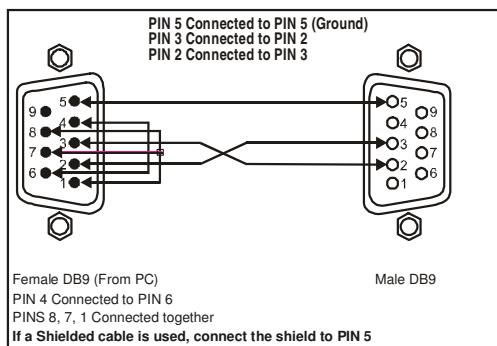

Figure 6: Connecting a PC without using a Null-modem Adapter
- Connect the RS-232 DB9 port on your PC to the RS-232 DB9 rear panel port on the Master **VS-44HC** unit, as Figure 6 illustrates